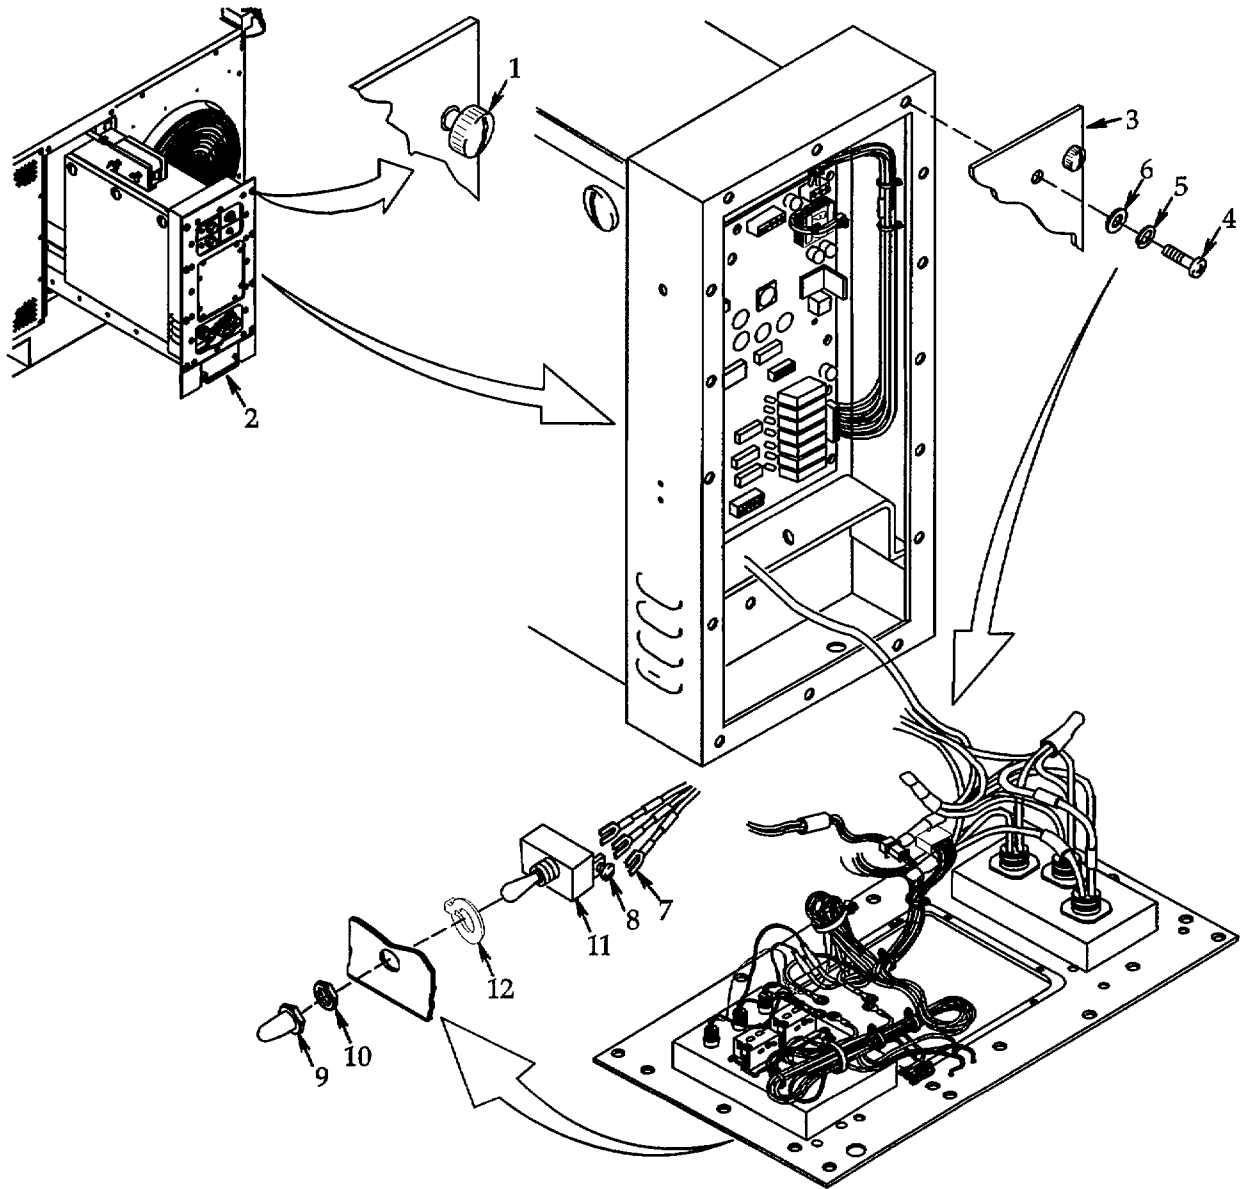

Figure 4-43. Toggle Switch (S7).
- a. **Removal.** See figure 4-43.
- (1) Shutdown the FDECU per paragraph 2.4 and disconnect it from power source.
- (2) Loosen eight captive screws (1) and carefully pull the electrical assembly (2) out.
- (3) Support control box panel (3) and remove 16 screws (4), lock washers (5), and flat washers (6). Carefully pull control box panel away as far as wire leads will allow. Discard lock washers.
- (4) Tag three wire leads (7). Loosen three screws (8) and remove wire leads.
- (5) Remove toggle switch cover (9), nut (10), toggle switch (11), and anti-rotation ring (12).
- b. **Installation.** See figure 4-43.
- (1) Be sure anti-rotation ring (12) is on toggle switch (11) then install toggle switch. Align anti-rotation ring key with panel and secure using nut (10) and toggle switch cover (9).